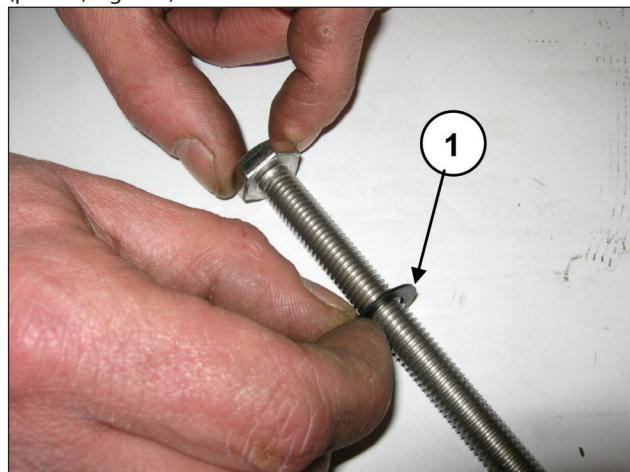

Fig. 146
Insert the Ø10x18x0.9 washer in the piston fixing screw (pos. ①, Fig. 146).